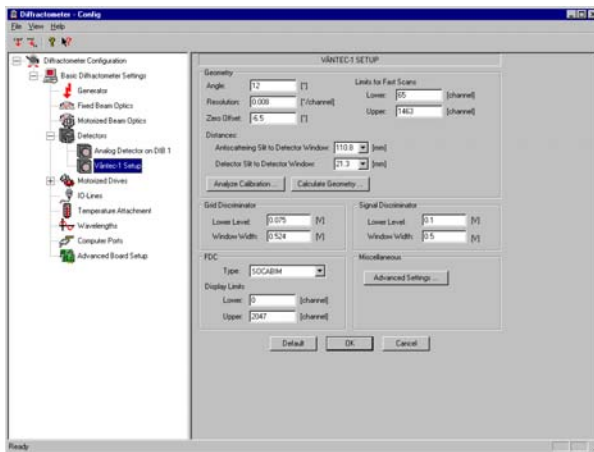

Figure 6.4 - Position Sensitive Detector menu
3. Select **VANTEC-1 Setup** (see Figure 6.4).